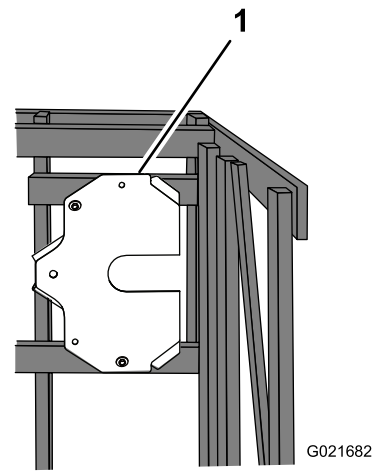

Figure 10
1. Remove the bolts securing the mounting plate to the crate (Figure 10).